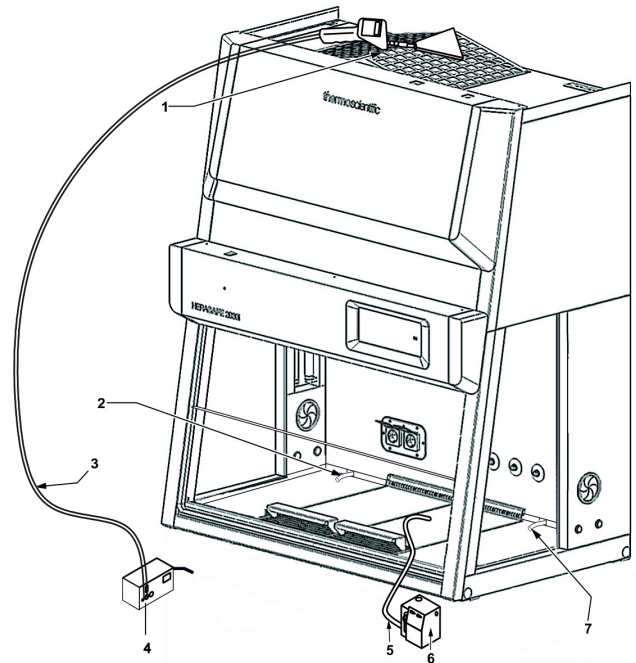

Figure 12. Testing the Exhaust HEPA filter (NSF49)
1. **Figure 12:** Route the hose [5] of the aerosol generator [6] so that the aerosols are supplied to the exhaust upward airflow.